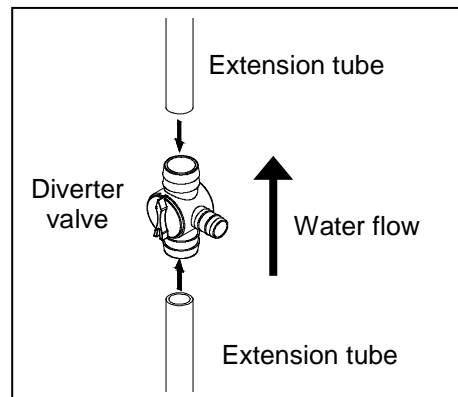

Fig. 9
9. Connect the extension tubes to the diverter valve. Pay attention to the markings on the ends of the diverter valve. The end with the "P" connects to the pump. The end with the "↑" points up, and connects to the fountain head. Fig. 9